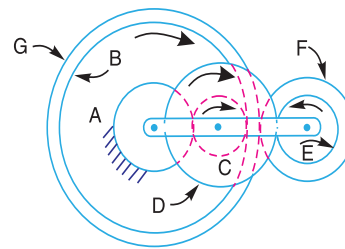

Fig. 13.36
7. Fig. 13.36, shows an epicyclic gear train with the following details :